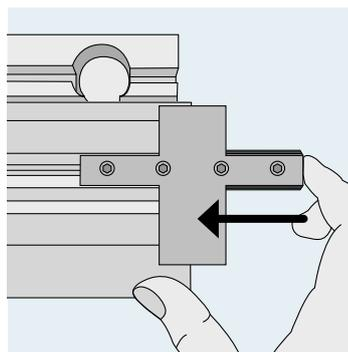

Figure 1: Underneath the threshold
- 13.** Insert the connector bracket and slide the bracket with the grub screws into the milling on the alu threshold (figure 1). Two screws must be installed on each side of the joint.